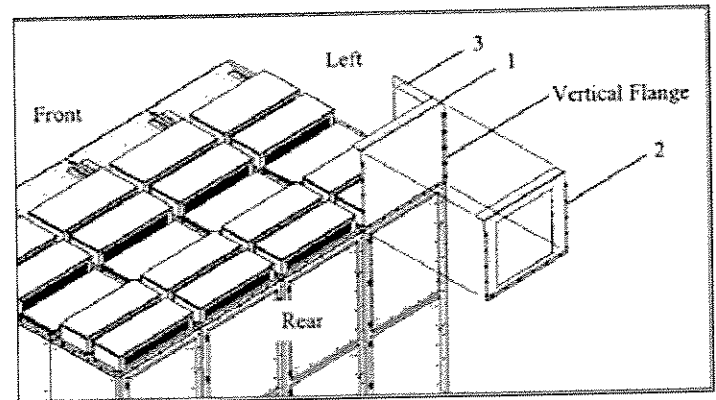

Figure 12. Detail of the Left Rear Corner of the Arc Exhaust Wall.
A. Installing the Arc Exhaust Wall. Construct the left rear corner of the arc exhaust wall (see Figure 12).